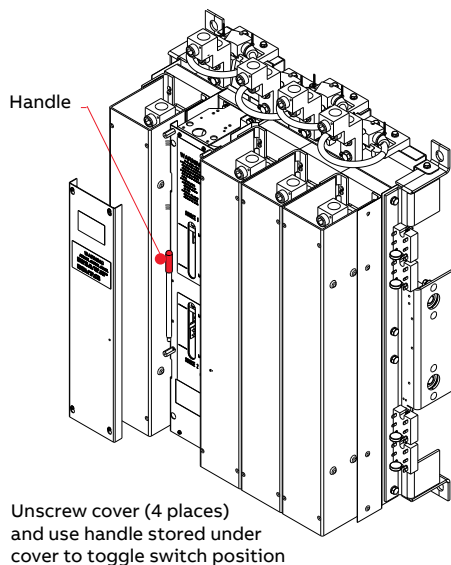

Fig. 3.6
3. Remove the cover and insert the manual handle (Fig. 3.6) into the desired port of the automatic transfer switch (Fig. 3.7).